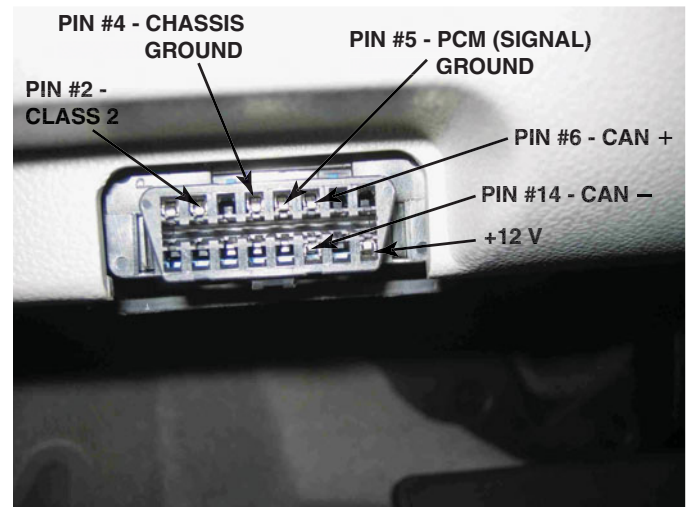

FIGURE 14-10 GMLAN uses pins at terminals 6 and 14.
- High-speed GMLAN.** The baud rate is almost real time at 500 Kbs. This serial data method uses a two-twisted-wire circuit which is connected to the data link connector on pins 6 and 14. ● **SEE FIGURE 14-10.**